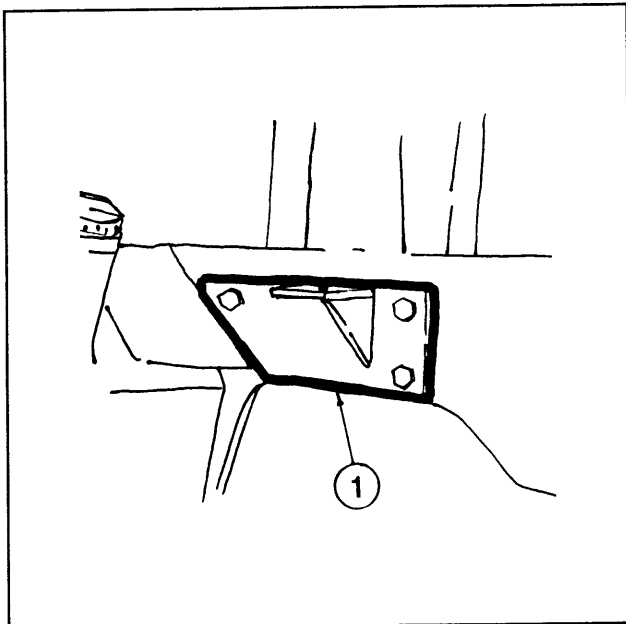

Figure 1
2. Locate the three-hole bolt pattern in the chassis, directly behind the left fender. Take the left rear bracket (1) and loosely bolt it to the chassis using the supplied 12x35x1.75mm hex bolts and 1/2" lockwashers in the rear, and 10x35x1.5mm hex bolt and 7/16" lockwasher in the front. (see figure 1)